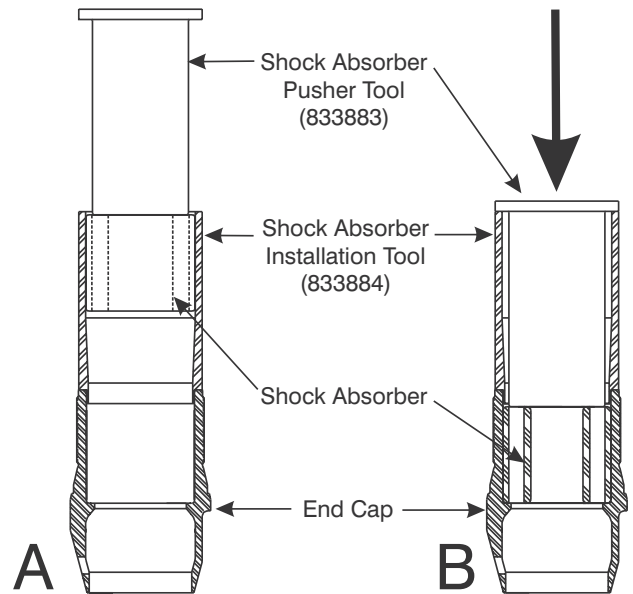
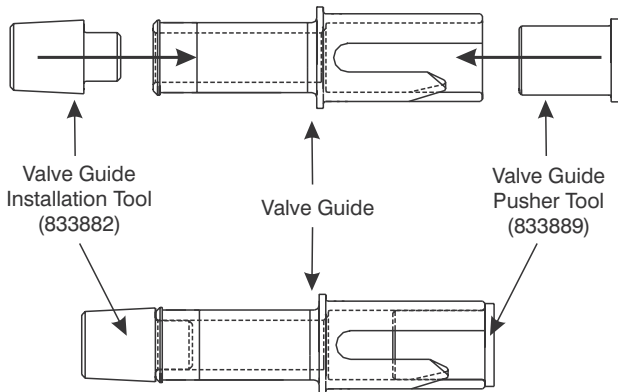

Figure 9-2. Press the Shock Absorber into the End Cap.
Figure 9-3. Valve Guide and Installation Tools
3. Center the Shock Absorber Pusher Tool 833883 over the Shock Absorber as shown in Figure 9-2-A.
4. Press the Shock Absorber into the End Cap until it seats against the shoulder at the non-threaded end of the cap as shown in Figure 9-2-B.
5. Before installing the Valve Guide (12), lubricate:
- the I.D. of the Shock Absorber (13).
6. Insert the small end of the Installation Tool 833882 into the small end of the Valve Guide, as shown in Figure 9-3.
7. Insert Pusher Tool 833889 into the large end of the Valve Guide, as shown in Figure 9-3.